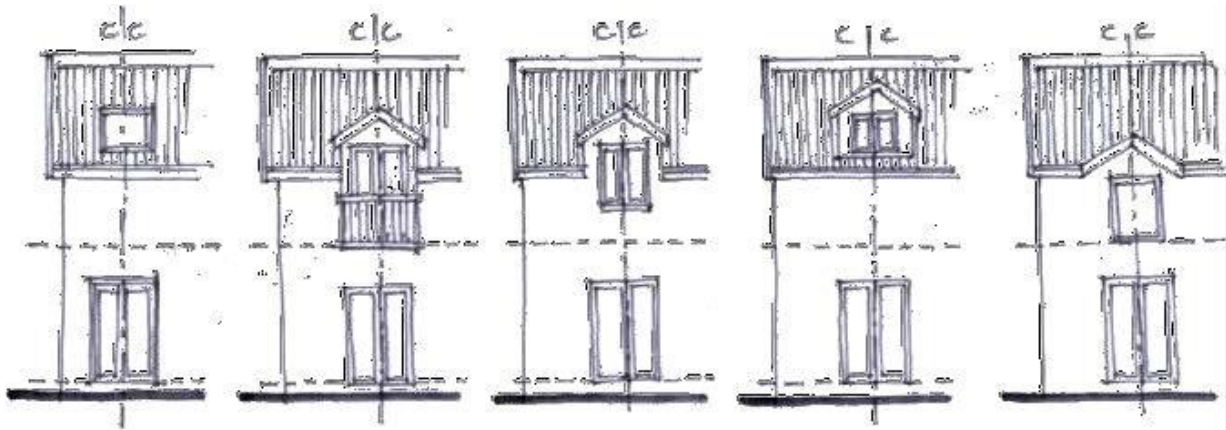

FIGURE 03: DORMERS / ROOF WINDOWS
- Group housing precinct dwellings are permitted to have “integrated” dormers to the roof space facilitated by the higher wall plate as per FIGURE 03.